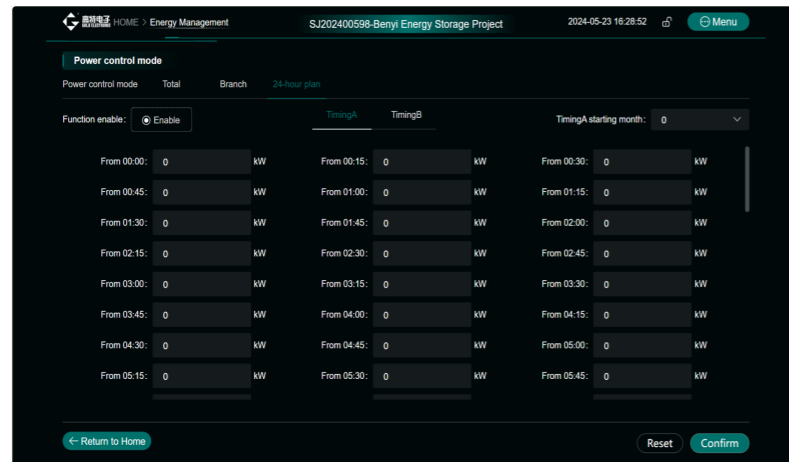
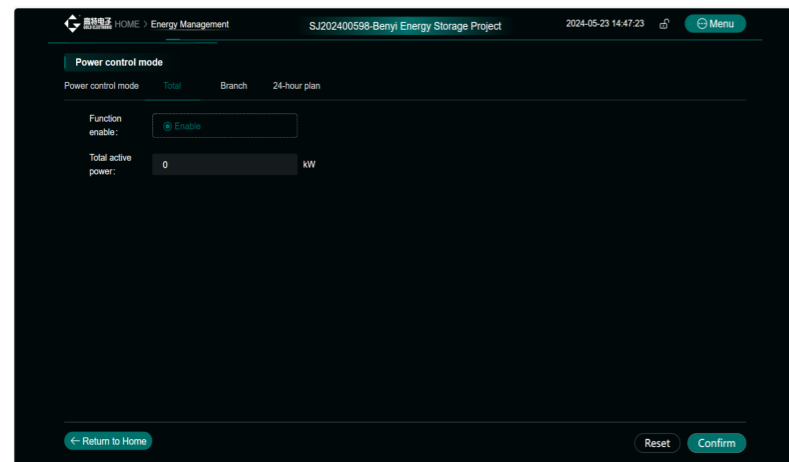
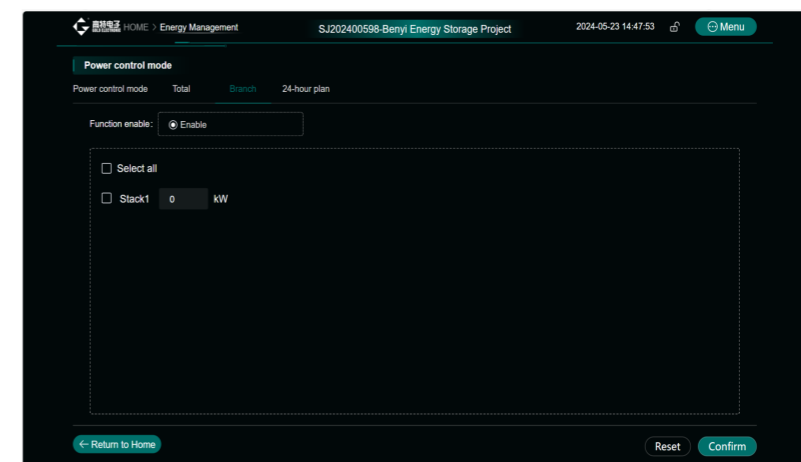

Fig.6-1-2 The 24-hour schedule
Fig.6-1-3 Total model
Fig.6-1-4 Branch model
- ◆ Control mode: Manual and automatic power control mode switching. The auto mode is scheduled auto mode, and the PCS power control is set according to Energy Management -> 24-hour schedule as in Figure 6-1-2. There are a total of 2 types of Manual Mode: Total Power Mode as in Figure 6-1-3 and Subsystem Mode as in Figure 6-1-4 to set up.